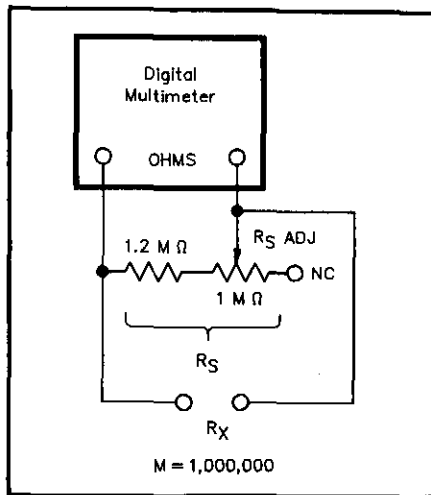

Fig 3—Cornelio Nouel measures resistances above the highest range on his DMM with the help of this circuit and Table 1.
□ My digital multimeter (DMM) measures resistance up to 2 megohms, and this is adequate in most cases. When I need to measure resistances higher than 2 MΩ, I use the circuit shown in Fig 3. When two resistors are connected in parallel, the resultant resistance is always lower than the value of the lower resistor. The unknown resistance can be found from the formula:
As Fig 3 shows, my R_S consists of a 1.2-MΩ fixed resistor in series with a 1-MΩ potentiometer (wired as a rheostat); I adjust the pot so that $R_S = 2$ MΩ. Next, I connect R_X to the circuit and read R_T on the DMM. Then I solve for R_X with Eq 1. Table 1 shows the DMM (R_T) readings